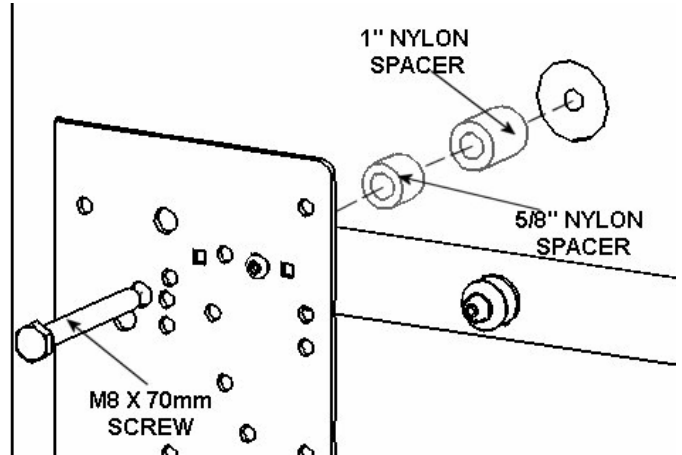

Figure 5. Spacer Installation for Group 1
3. Place four 5/8" and 1" Nylon spacers over the mounting holes on your display (see Figure 5).